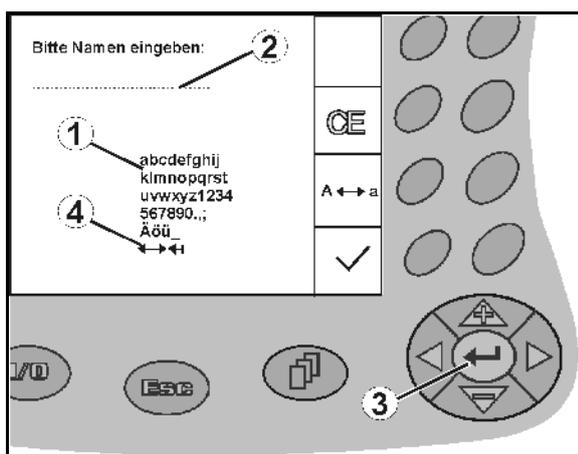

Fig. 13
If it is necessary to enter texts or numbers on the AMATRON⁺, the input menu (Fig. 13) appears.
In the lower part of the display, a selection field (Fig. 13/1) appears with letters, numbers and arrows which can be used to compose the input line (Fig. 13/2).
, , , Selection of letters or numbers in the selection field (Fig. 13/3).
- Confirm the selection (Fig. 13/3).
The arrows in the selection field (Fig. 13/4) allow movement in the text line.
The arrow in the selection field (Fig. 13/4) deletes the last entry.